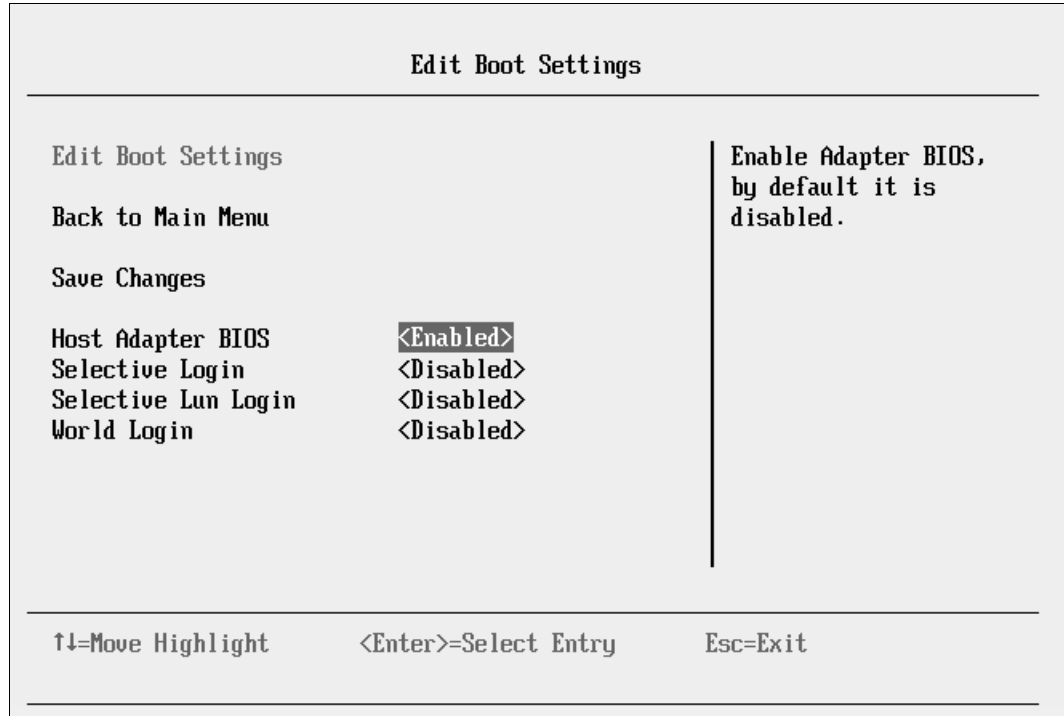

Figure 9-155 Edit Boot Settings panel
9. In the Edit Boot Settings panel (Figure 9-155):